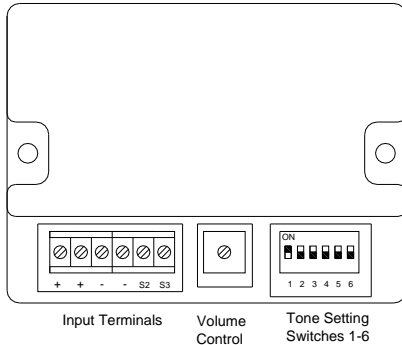

Fig 2 Location of field terminals and controls.
- Fit a 20mm cable gland or conduit entry into the untapped hole in the enclosure and connect the field wiring to the appropriate sounder terminals as shown in section 6 and fig 2 of this manual. The power supply terminals + and - are duplicated so that sounders may be connected in parallel, or an end of line monitoring resistor may be fitted.
- Select the required output tone by positioning the six switches as shown in Table 1 and Fig 2.
Tone Selection – To select the required first stage tone set the tone switches 1 to 6 (see Fig 2) to the tone setting shown in the table below. The table also shows which 2nd and 3rd stage tones are available for use with the selected first stage tone if more than one tone output stage is required.
The output level of the IS-A105N sounder can be set by adjusting the volume control potentiometer (see Fig 2).